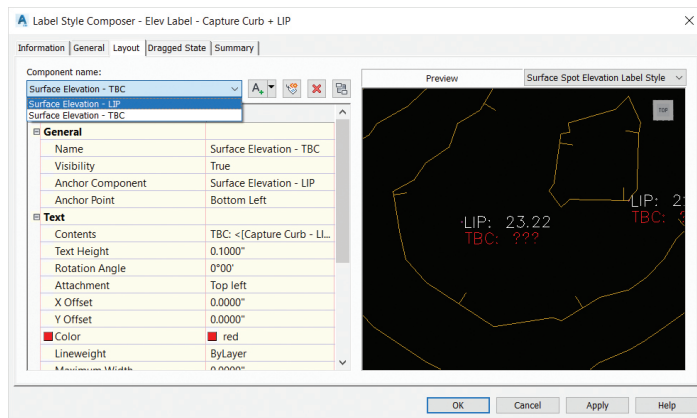

Figure 5
12. Properly compose your label as shown in Figure 5.